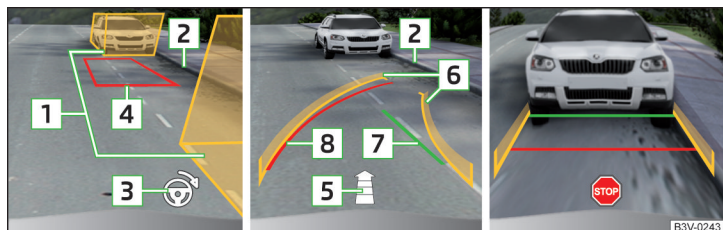

Fig. 179 Display
- Stop the vehicle stop so that there are no obstructions in the gap between the auxiliary boxes **1** » Fig. 179 and the rear box does not extend over the side of the parking space **2** (e.g. kerb).